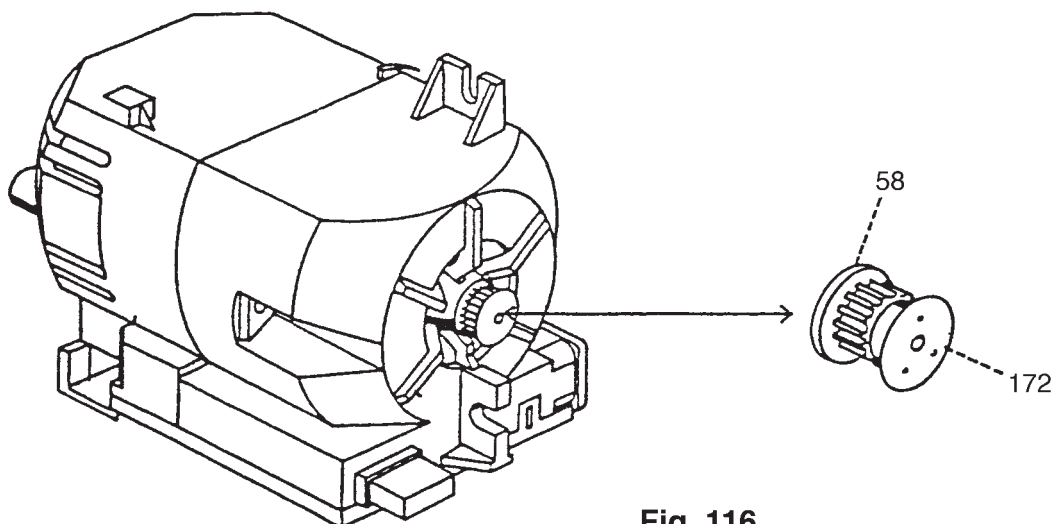

Fig. 116
- Insert two screwdrivers of the same width between pinion 58 and the motor bearing (fig. 116).